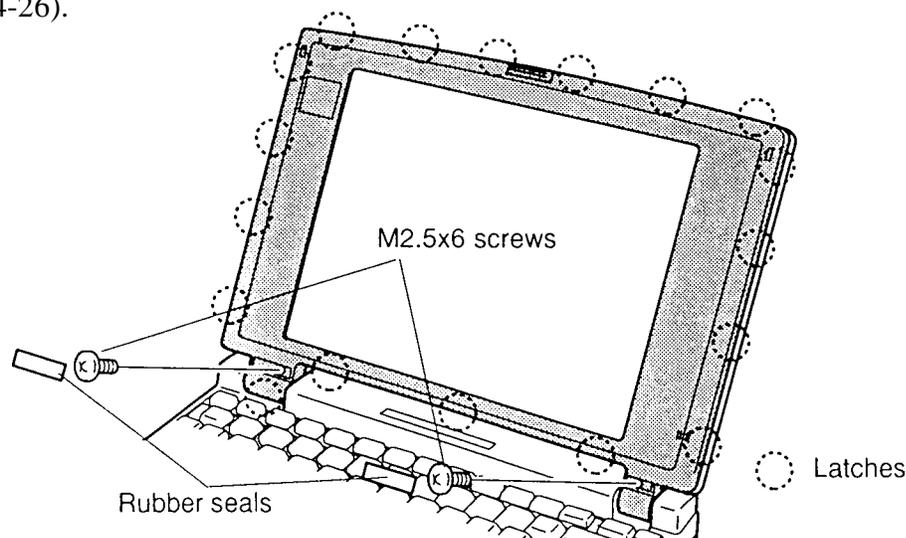

Figure 4-26 Removing the display mask
To remove the display mask, follow the steps below and refer to figure 4-26.
6. Continue releasing the mask along the **sides (four latches)** on each side, at the bottom (**three latches**), and display supports (**one latch** at the small display support and **three latches** at the larger display support are not indicated in figure 4-26).
To install the display mask, follow the steps below and refer to figure 4-26.